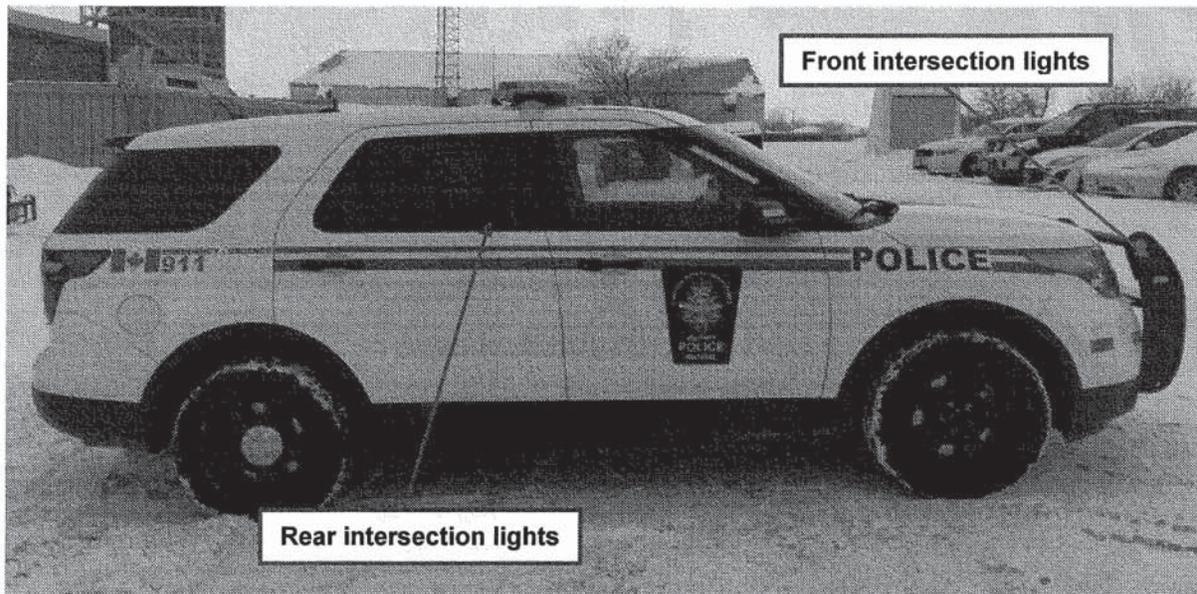

Figure 9 – Ford Police Interceptor Utility - Side view
15. Ford Police Interceptor Utility marked MP vehicle ***shall*** have in both roof-light-equipped and “slick-top” configurations as illustrated in *Figures 9 to 12* below;